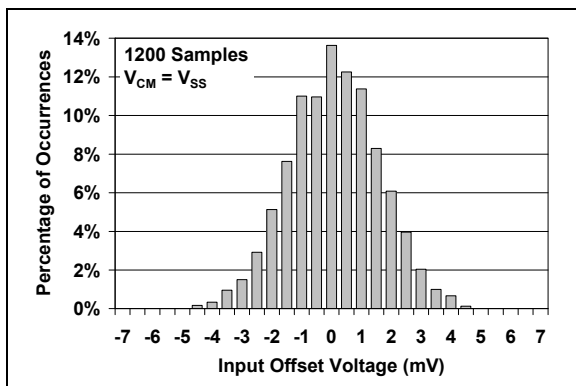

**FIGURE 1-3:** AC and DC Test Circuit for the Push-Pull Output Comparators.
**Electrical Specifications:** Unless otherwise indicated,  $V_{DD} = +1.6V$  to  $+5.5V$ ,  $V_{SS} = GND$ ,  $T_A = +25^{\circ}C$ ,  $V_{IN+} = V_{DD}/2$ ,  $V_{IN-} = V_{SS}$ , and  $R_L = 100$  k $\Omega$  to  $V_{DD}/2$  (Refer to Figure 1-3).
**Electrical Specifications:** Unless otherwise indicated,  $V_{DD} = +1.6V$  to  $+5.5V$ ,  $V_{SS} = GND$ ,  $T_A = +25^\circ C$ ,  $V_{IN+} = V_{DD}/2$ ,  $V_{IN-} = V_{SS}$ , and  $R_L = 100\ k\Omega$  to  $V_{DD}/2$  (Refer to Figure 1-3).
**Electrical Specifications:** Unless otherwise indicated,  $V_{DD} = +1.6V$  to  $+5.5V$ ,  $V_{SS} = GND$ ,  $T_A = +25^\circ C$ ,  $V_{IN+} = V_{DD}/2$ , Step = 200 mV, Overdrive = 100 mV, and  $C_L = 36\ pF$  (Refer to Figure 1-2 and Figure 1-3).